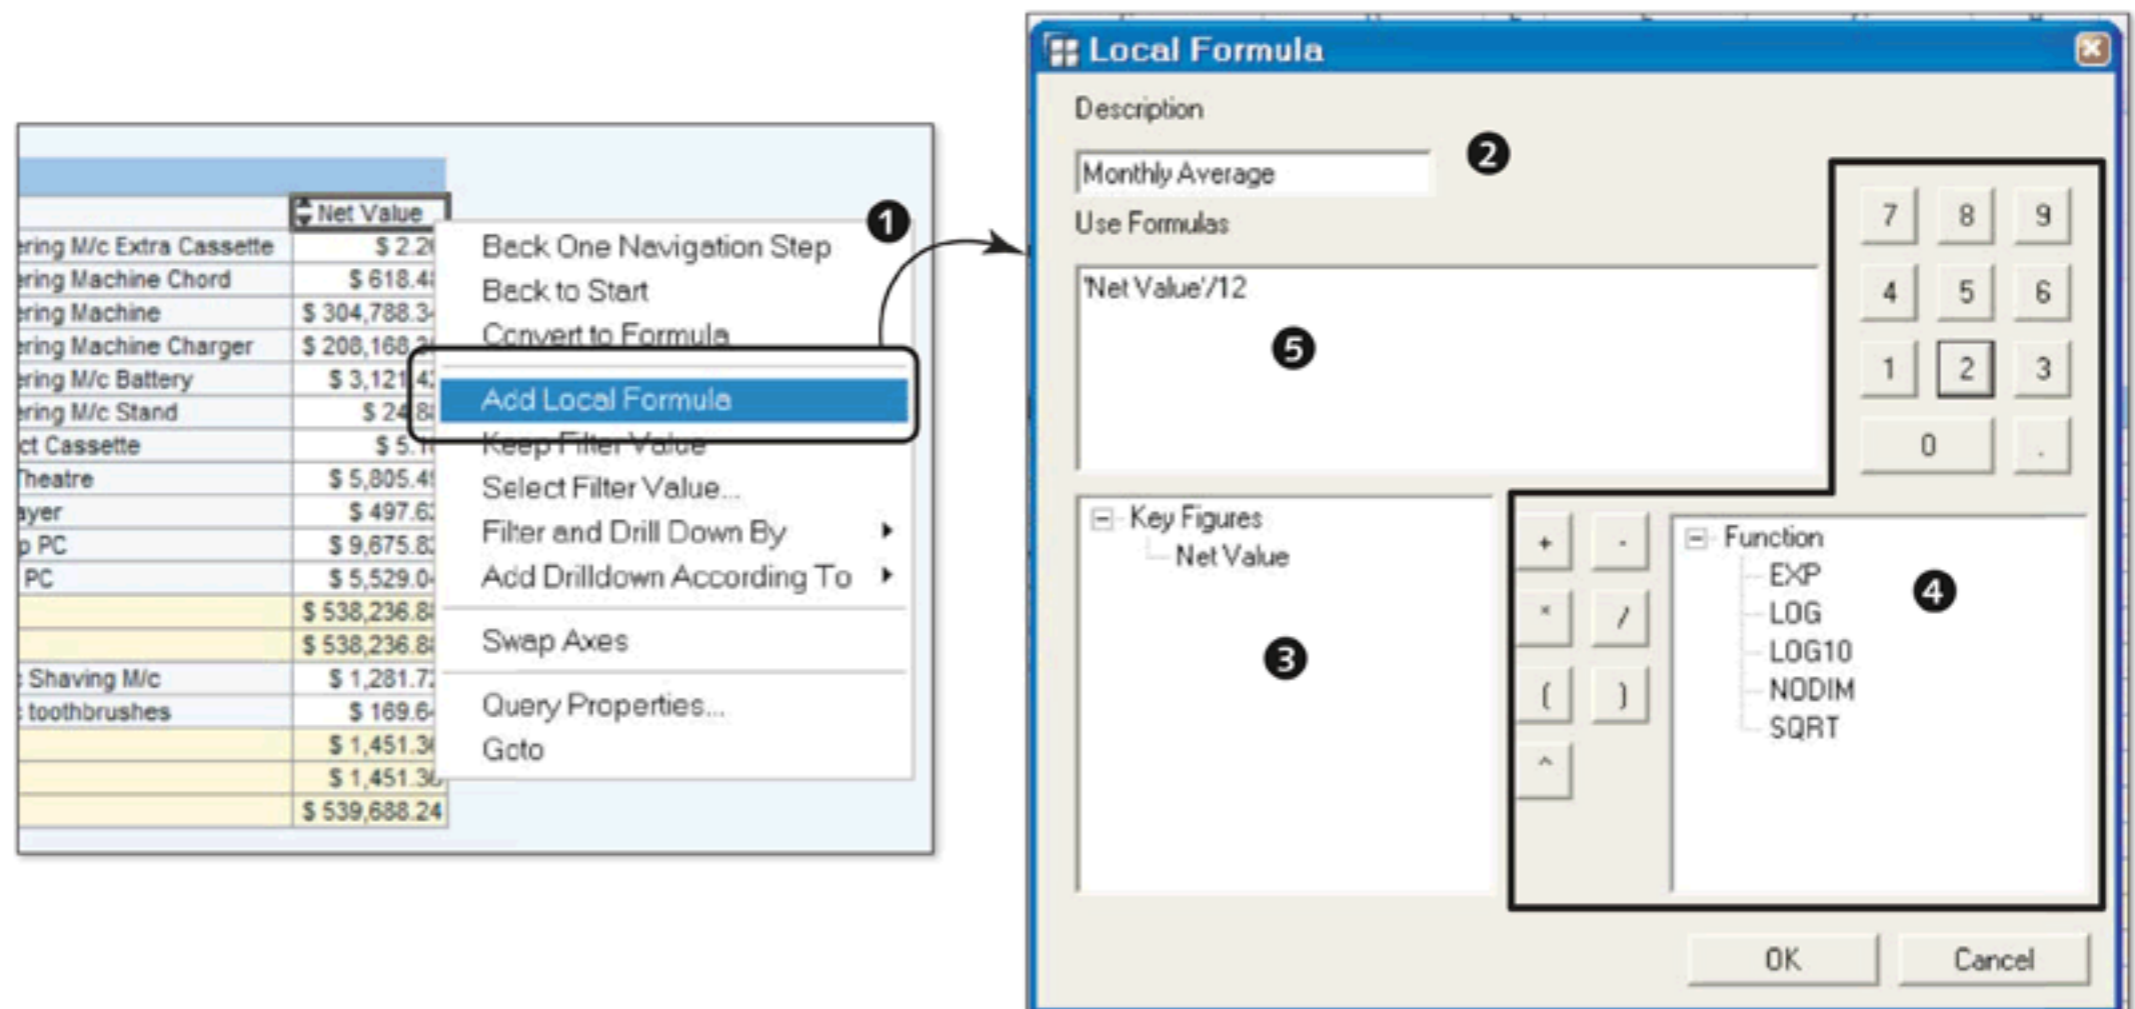

Figure 10.22 Add a Local Formula
The option to create a local formula in a workbook is available in the context menu for the key figure column header cell (Figure 10.22). Select ADD LOCAL FORMULA from the context menu of the key figure header, as shown in ❶ of Figure 10.22. This opens the LOCAL FORMULA pop-up window where you define the formula logic.